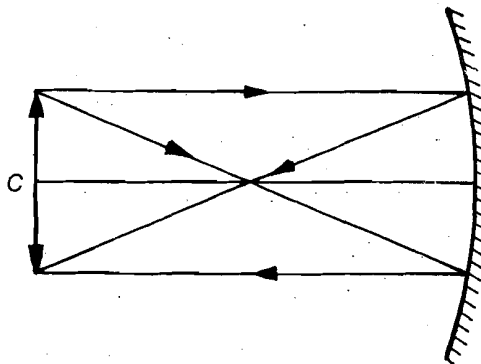

Fig.4.4: Ray diagram for image formed by a concave mirror when the object is at C
6. You should now look for an inverted image. Once you observe it, remove the parallax between the object pin and its image by moving the object pin backward or forward. Note the position of the pin in no-parallax condition. This gives you v . Record it also in the Observation Table. We expect that the value of v will be equal to the value of u . The ray diagram for this configuration is shown in Fig.4.4.